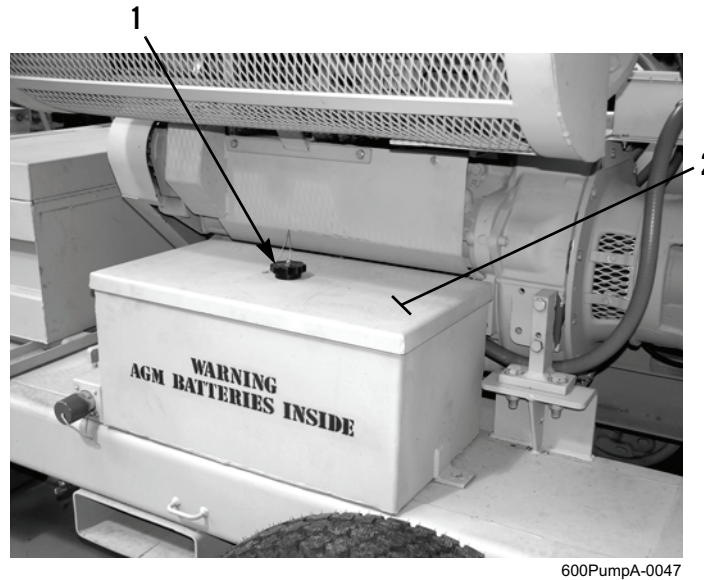

Figure 5. Battery Box.
3. Close battery box by positioning lid (Figure 5, Item 2) over holddown retaining bolt (Figure 5, Item 1) clockwise (right) to secure lid tightly.